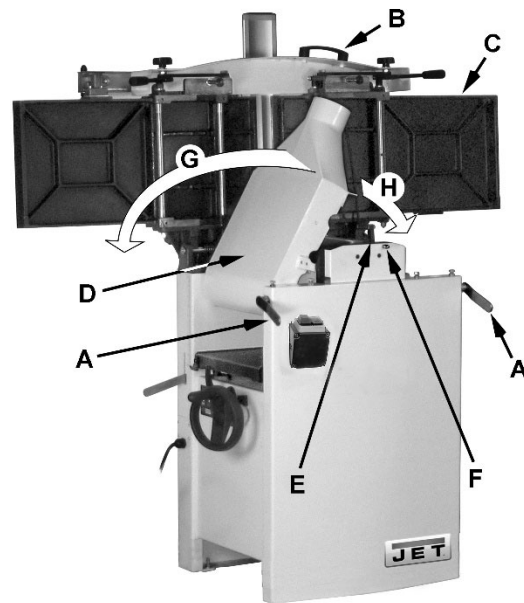

Figure 3
When raised, the table should be in the vertical position as shown in C, Fig. 3. The *latch* (E, Fig. 3) should be engaged, preventing the table from an accidental forward fall.
3. Position the *dust chute* (D, H Fig. 3) to the right. Use extreme care to avoid contact with cutterhead knives.
Refer to Figure 3: